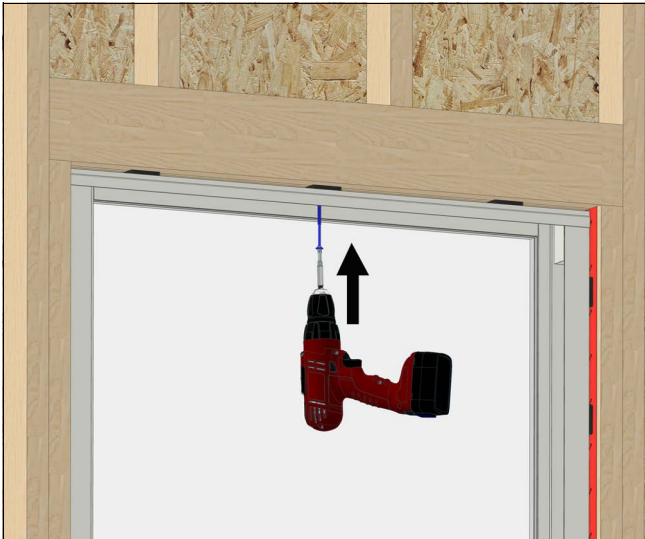

Figure 10
3. Install one fastener through the head jamb to affix the unit to the opening. Follow instructions in the section, “Typical Anchors on page 9”. See Figure 10.